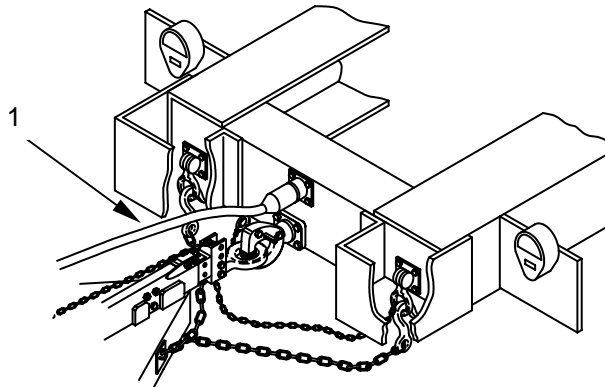

Figure 1. Inter-Vehicular Cable to Prime Mover
2. Connect Inter-vehicular cable (**figure 1, item 1**) to prime mover.